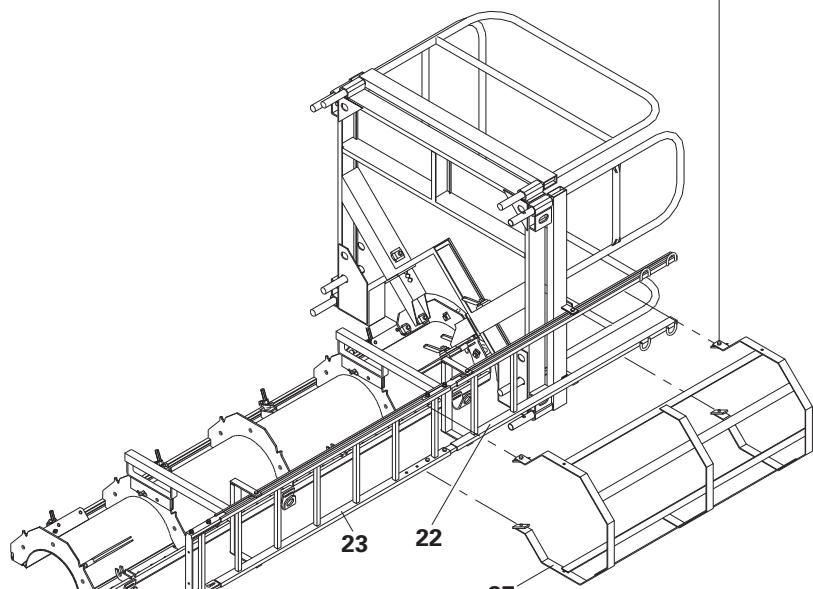

Fig. A2.09
5. Attach Ladder Safety Cage 150 (27) using clamping plates to End Ladder 180/2 (22) and Ladder 180/6 (23) – overlapping ladder joint – SW 19. (Fig. A2.09 + A2.09.1)